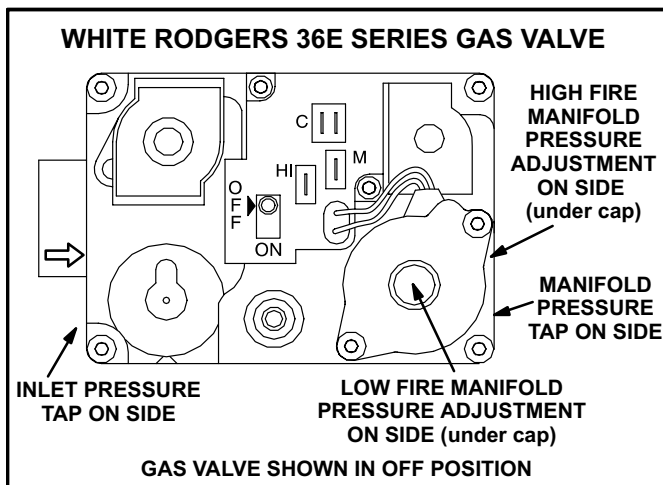

FIGURE 17
The G60UHV(X) uses a two-stage gas valve manufactured by White Rodgers or Honeywell (figures 17 and 18). The valve is internally redundant to assure safety shut-off. If the gas valve must be replaced, the same type valve must be used.
- 6 - *White Rodgers 36E Gas Valve* - Switch gas valve lever to **OFF**. See figure 17.
- 8 - *White Rodgers 36E Gas Valve* - Switch gas valve lever to **ON**. See figure 17.
When testing supply gas pressure, connect test gauge to inlet pressure tap on the gas valve See figure 17 or 18. Check gas line pressure with unit firing at maximum rate. Low pressure may result in erratic operation or underfire. High pressure can result in permanent damage to gas valve or overfire. See table 29 for operating pressure at unit gas connection (line).
- 1 - Connect a test gauge to manifold pressure tap on gas valve. See figure 17 or 18 for tap location. Start unit and allow 5 minutes for unit to reach steady state.